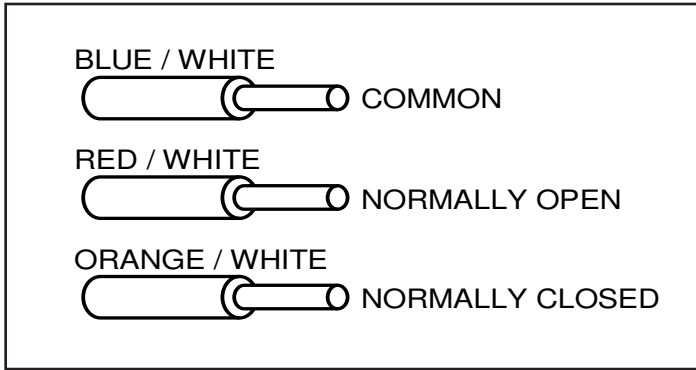

Figure 4. Sidemount Form C Wires
8. **Standard** and Standard with Surge Counter SPDs also provide wiring for Form C relay contacts. This connection can be used for remote monitoring of the SPD. The Form C contacts are rated at 150V AC or 125V DC at 1A. Make the remote monitoring connections per the Form C wiring diagram in Figure 4. Follow all national, state and local electrical codes when making these connections.